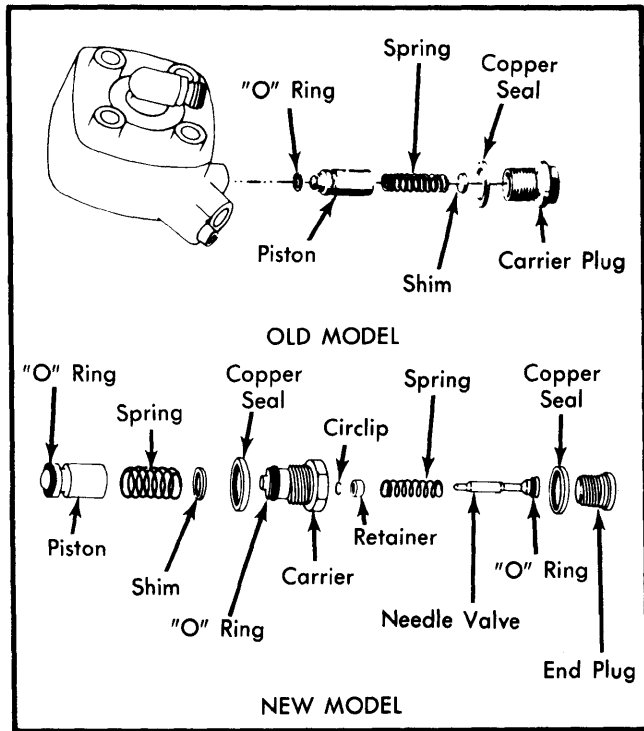

Fig. 5 Components of Pressure Regulator Valve
- 4) System pressure may be adjusted by adding to or removing shims from valve. See Fig. 5. Pressure will be changed 1 psi (.06 kg/cm²) by a .004" (.1 mm) shim or 4 psi (.3 kg/cm²) by a .020" (.5 mm) shim.